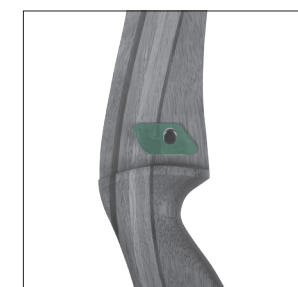

FIGURE 5
- Affix the included rest to the riser, above the shelf as shown in Photo (Fig. 5)